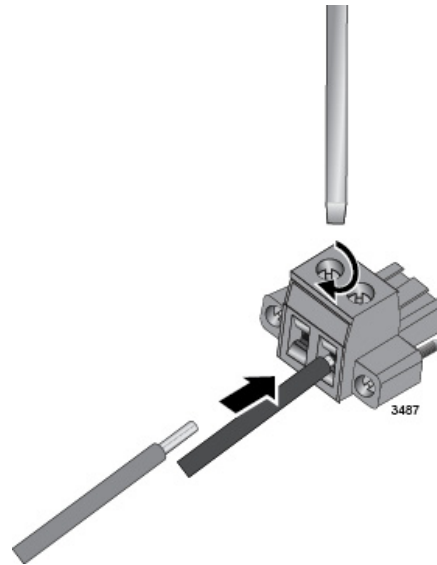

Figure 31. Inserting the Voltage and Return Wires
- 5. Insert the black and red wires into the power connector according to Table 4. Secure them by tightening the captive screw with a flat-head screwdriver. Allied Telesis recommends tightening the screw to 5 in-lbs. Refer to Figure 31.